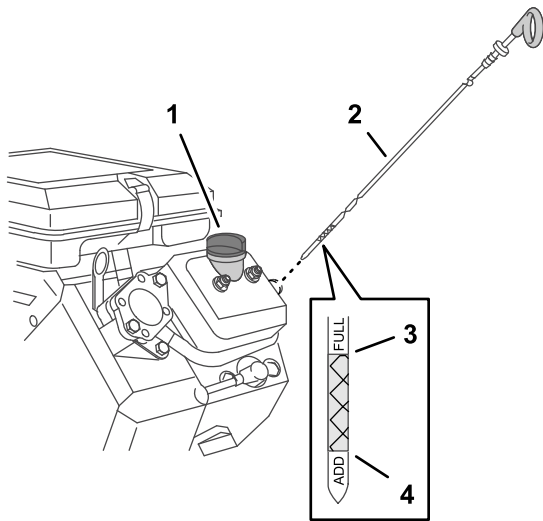

Figure 70
4. Insert the dipstick into the engine (Figure 70).
- Remove the dipstick from the filler neck, and check oil level on the dipstick (Figure 70).
Note: The engine oil level must cover the hatch-marked area of the dipstick (Figure 70).